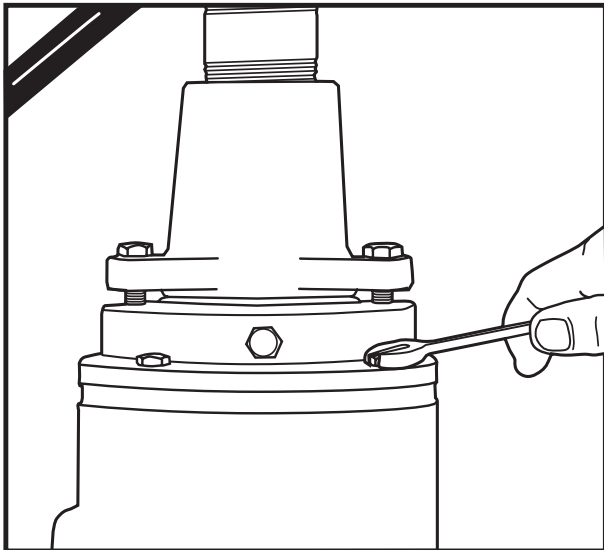

Fig. 32
2. Remove motor end cap screws and thread into tapped back-off holes to force cap from motor housing. See Figure 32